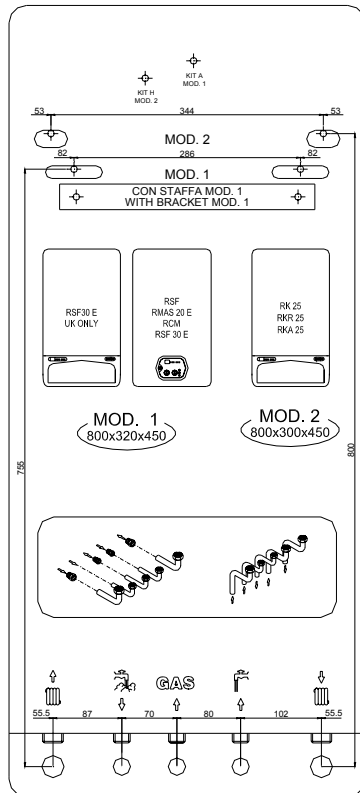

Fig. 1
- a) with a spirit level, draw a line on the wall on which the boiler will be installed (fig. 1);
- b) position the top of the template on the line drawn with the spirit level (respecting the distances – see fig. 1) than mark the three points for insertion of the 3 screw anchors or wall anchors for fixing the boiler hanging bracket (choose proper anchors according to the wall type);